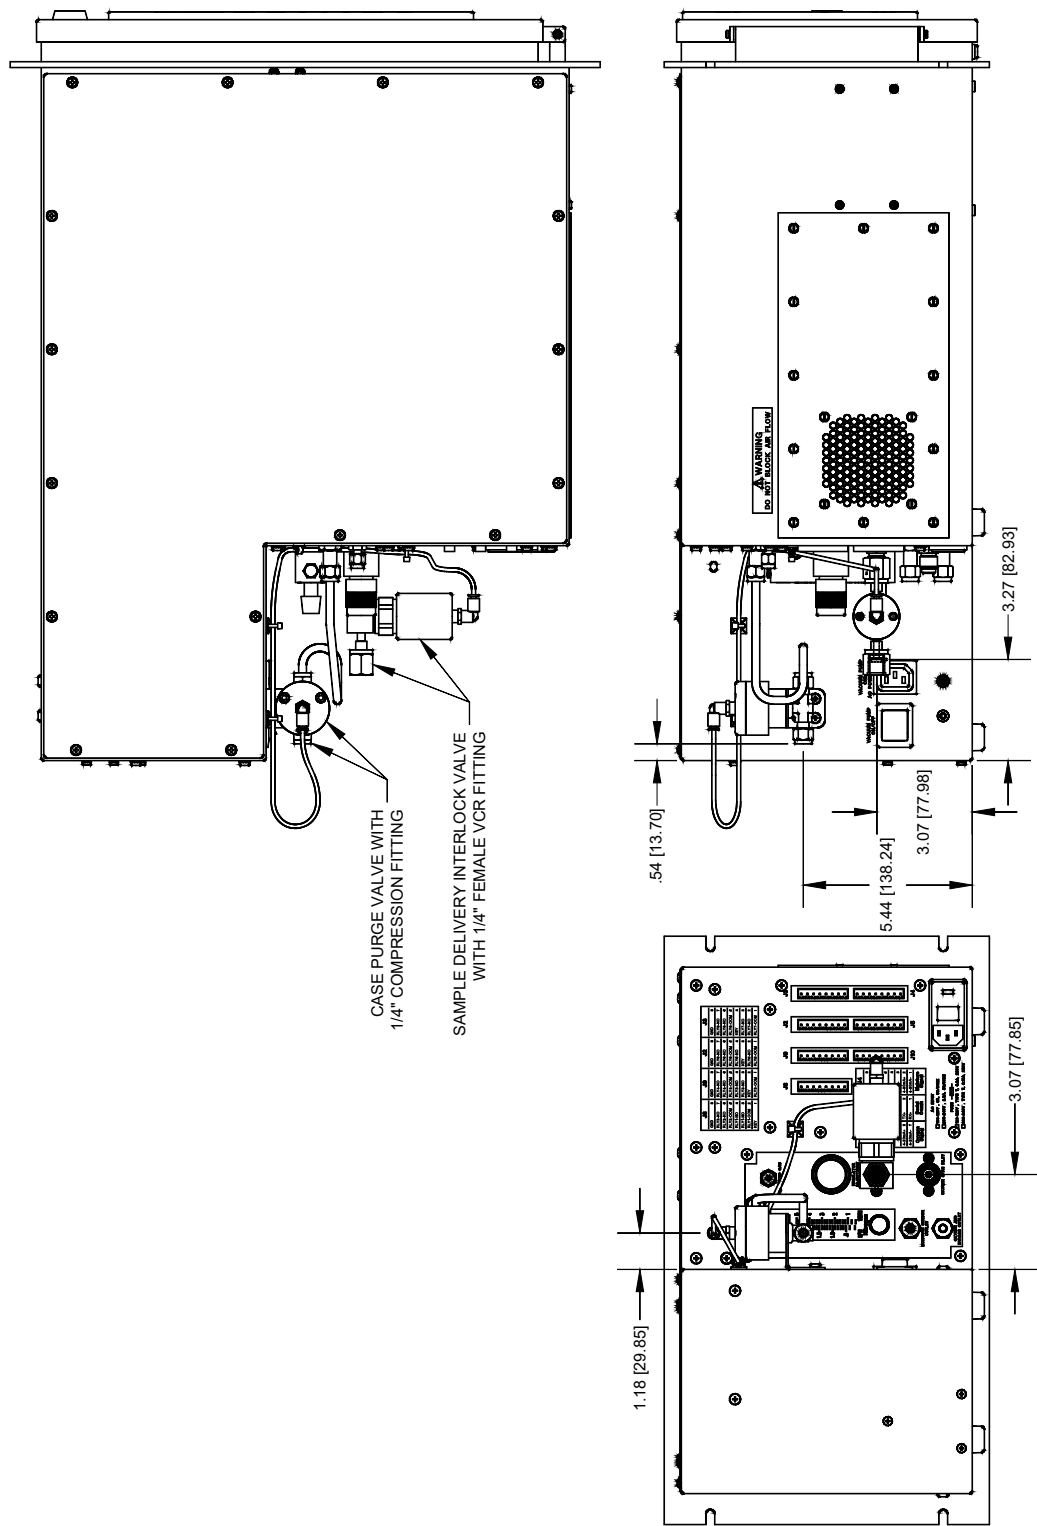

Figure 98 Optional Hydrogen System Safety System
- **Vacuum Pump** -if equipped with a vacuum pump, **an enclosure** equipped with a nitrogen case purge is provided to maintain a safe condition. In addition, an interlock is provided to detect and react to loss of Nitrogen purge flow. Refer to **Figure 98**.